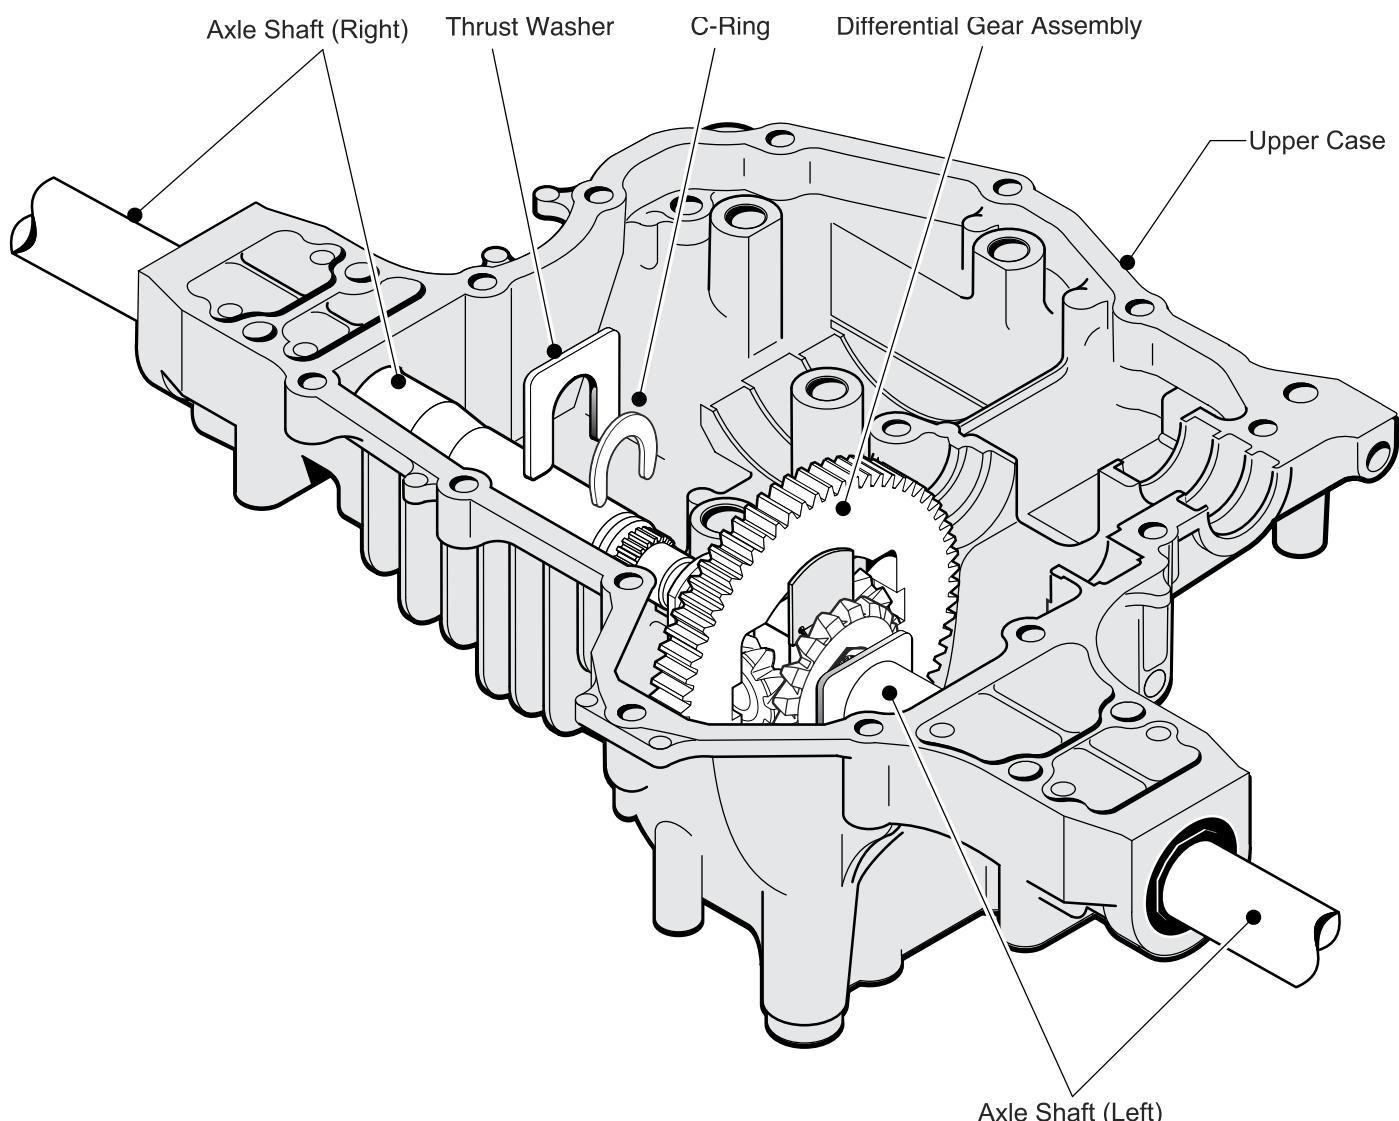

Fig. 41, Differential Gear Installation
5. Install the (2) C-Rings onto the Left and Right Axle Shafts; then, push Shafts inward until each C-Ring is captured within the Side Gear's recess. (*Fig. 41*)
6. Install the (2) Thrust Washers to the Left and Right Axle Shafts. (*Fig. 41*)